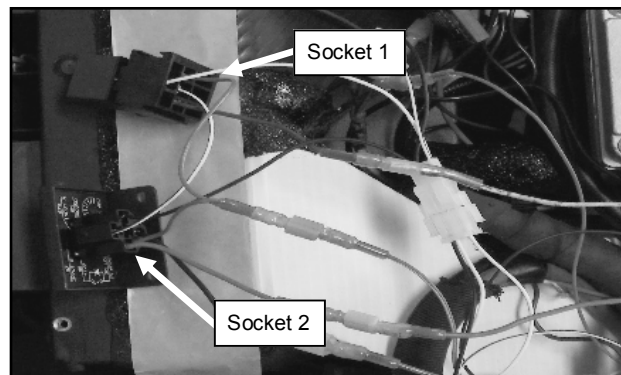

Fig. 4.1 (Install Relays)
- 4.1 Install time delay solid state relay (0-10 sec) on-delay (8SV-114-00023) (located in the alternator kit) into socket 2 of relay harness (located in the alternator kit). Note that the solid state relay can only fit into socket 2, due to its shape. As shown in figure 4.1.